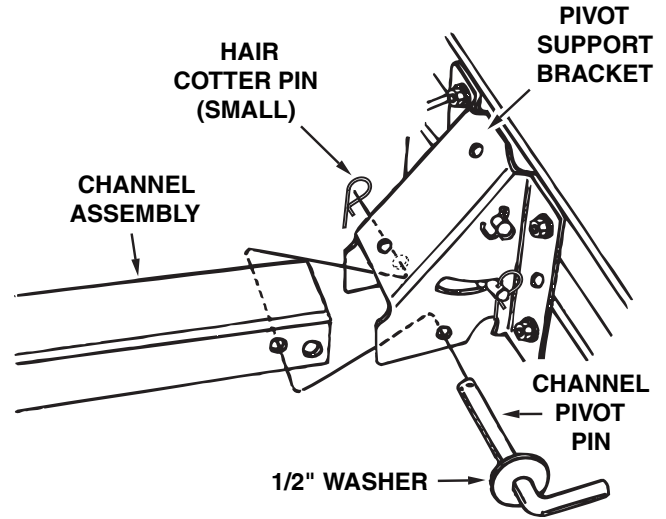

Figure 3
9. Attach the channel assembly to the tractor by placing the end of the channel inside the pivot support bracket. Assemble the 1/2" flat washer onto the channel pivot pin and insert the pin through the holes in the pivot support bracket and the channel. Secure with a small hair cotter pin. See figure 3.